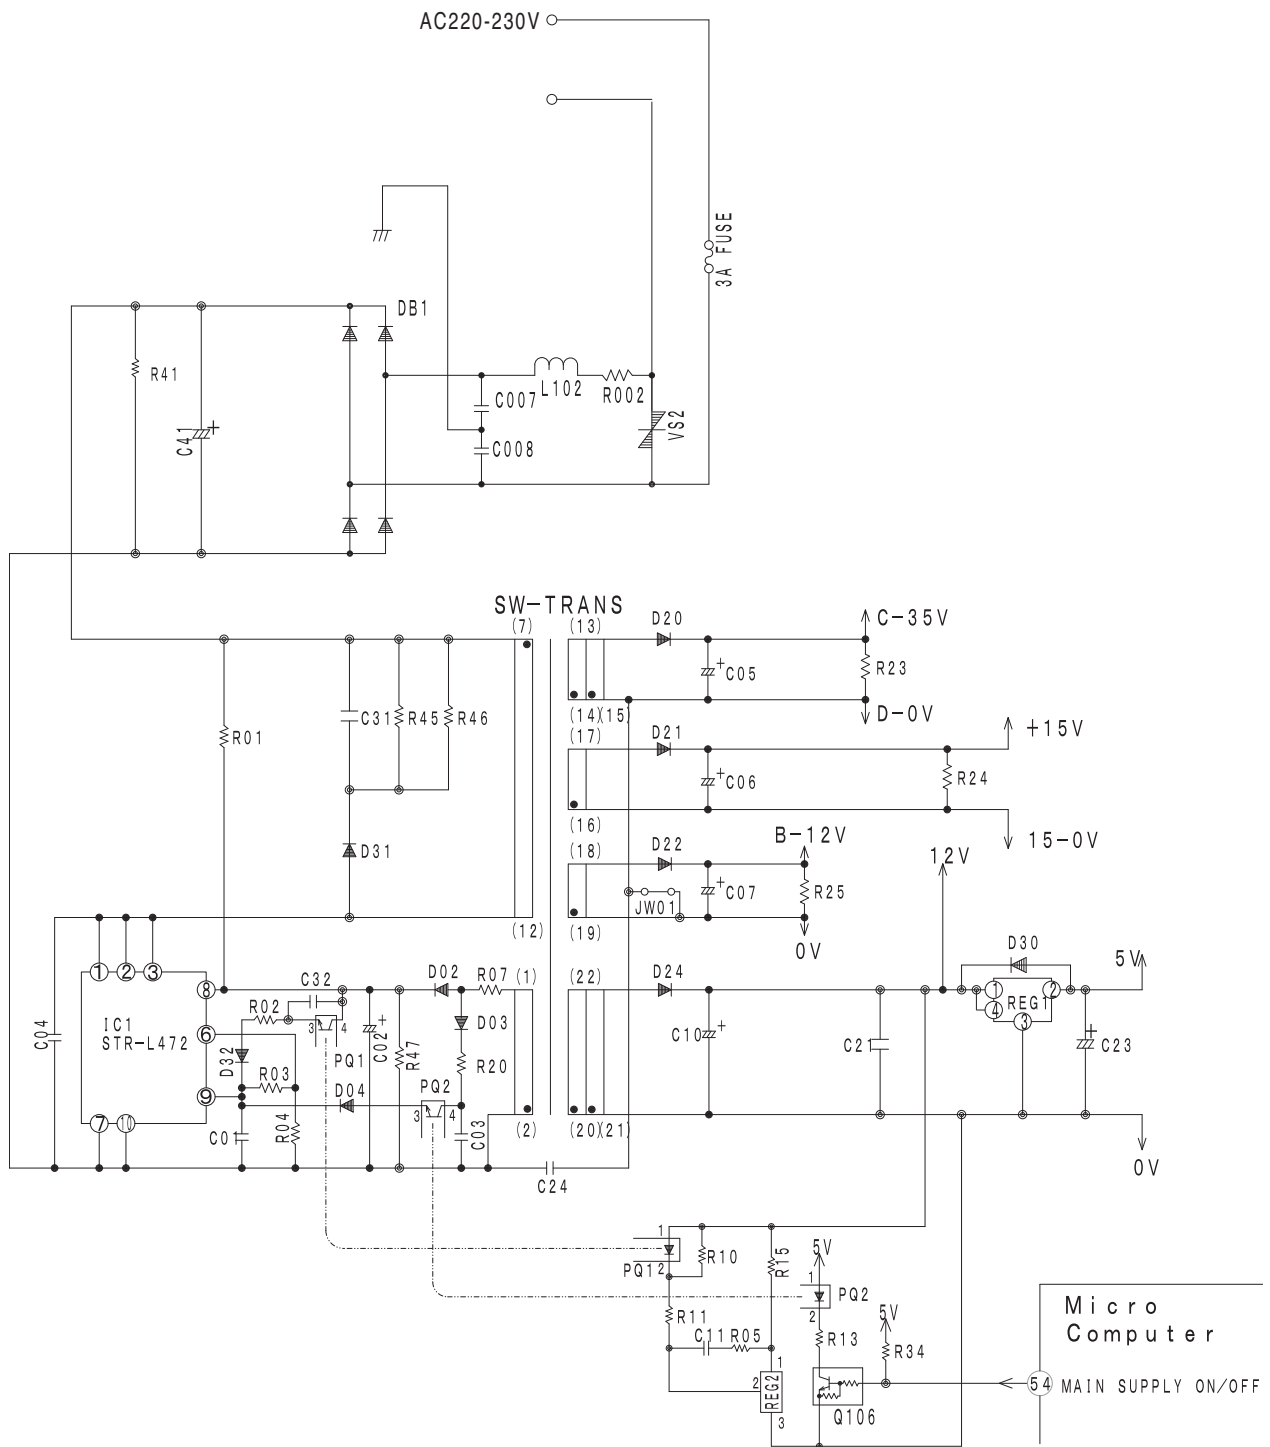

Fig 5-1
- Fig. 5-1 shows the power circuit for P.W.B.